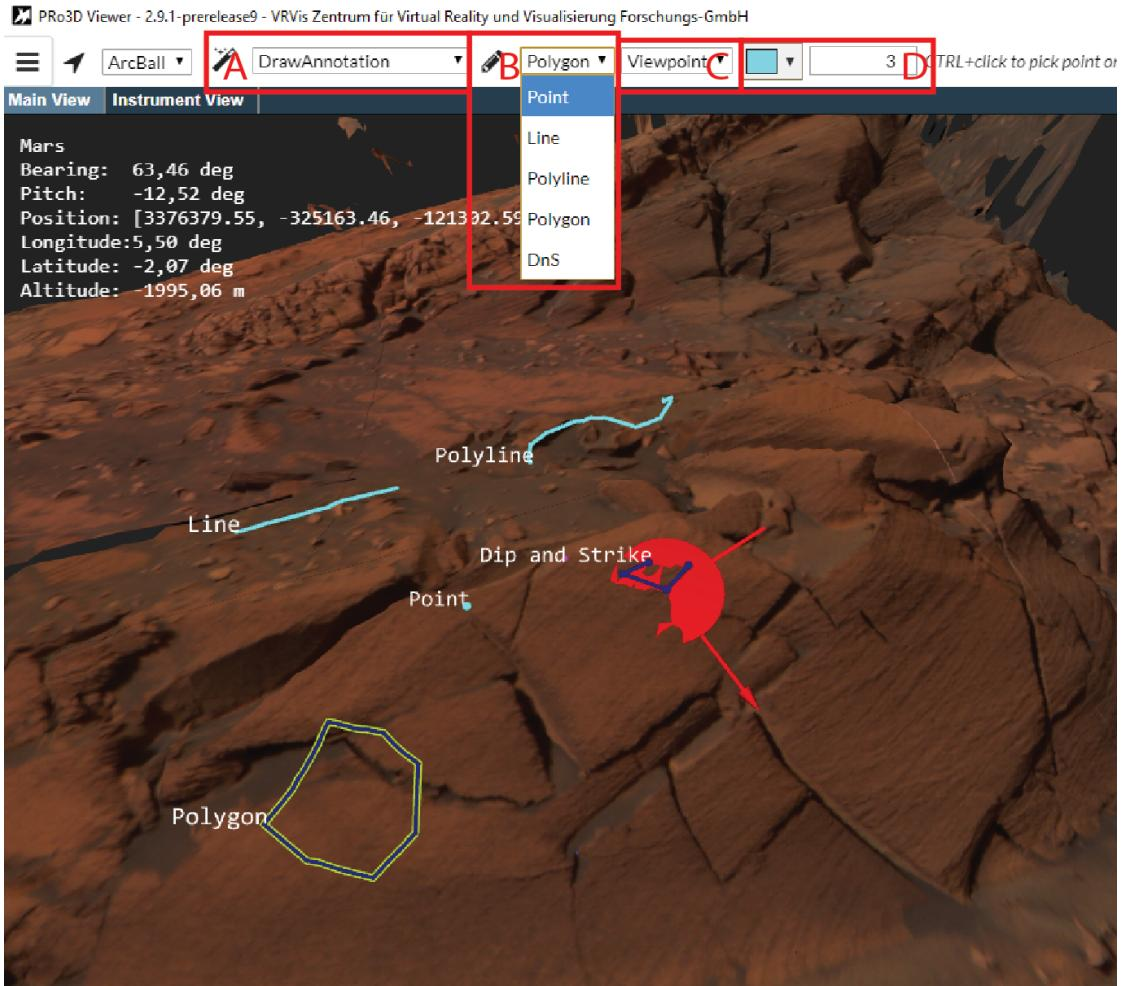

Figure 9: Annotation settings: **A**: set viewer action to “DrawAnnotation”. **B**: select annotation mode. **C**: select projection. **D**: choose color and thickness.
Figure 9 shows the settings for drawing annotations. First set “DrawAnnotation” in the actions menu (A in Figure 9). Then you can choose one of the following annotation modes (B in Figure 9):
- *DnS*: (= *Dip and Strike*) A polyline onto a surface, e.g. alongside a rock layer can be picked. After clicking Enter, a plane is fitted (least squares) to this polyline (blue), which is then intersected with a horizontal plane, which gives us the so-called strike vector (red). This vector represents the direction within the plane with the least inclination and orthogonal to it is the dip vector (green) which shows the direction of highest inclination as shown in Figure 9.
For all annotations (except Point) you can choose between “Linear”, “ViewPoint” and “Sky” projection which determines the direction of the picking ray (C in Figure 9):
Finally you can set the color and thickness of the annotation (D in Figure 9). Section 4.2 shows how to maintain, group and edit existing annotations.
Then the annotation turns its color to green in the listing and gets a green border in the main view as shown in Figure 9, where the Polygon is selected. Once selected, you can explore and adjust the annotation's properties (see Section 4.2).
- *D+S Plane Size*: The dip and strike measurements plane size, described in Section 3.3 (Figure 9).